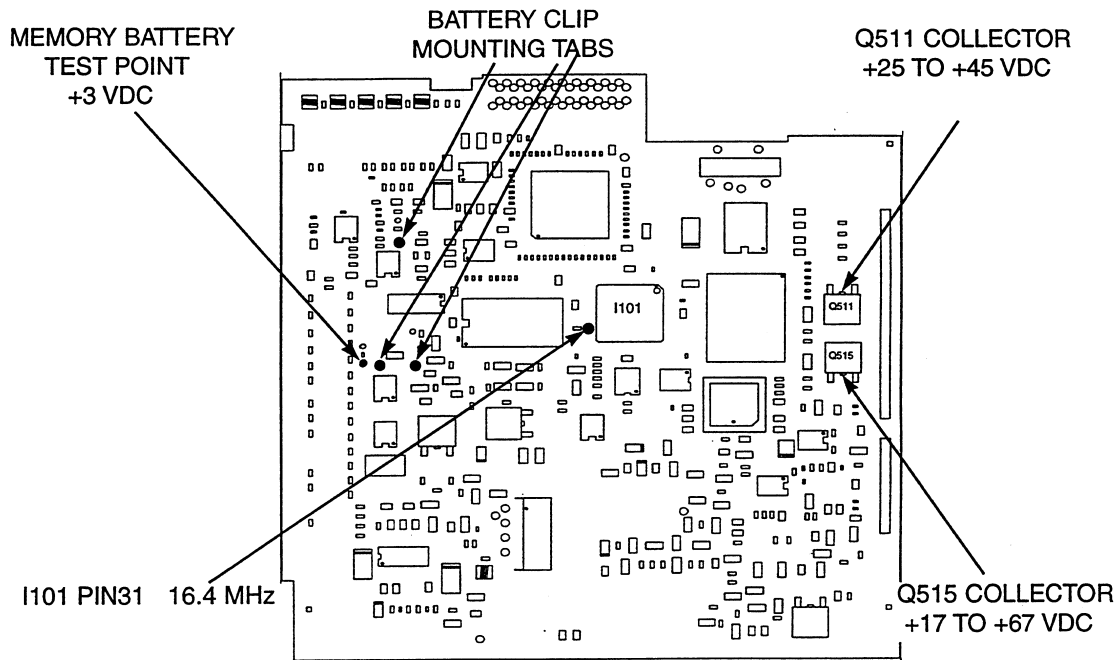

Figure 7. CPU Board Testpoints (Bottom View)
3. Check the DC voltage between Q515 and ground as shown in Figure 7. The voltage should be between 17.00 and 67.00 volts. If the voltage is out of the limits specified, replace the CPU board.
5. Check the DC voltage between Q511 and ground as shown in Figure 7. The voltage should be between 25 and 45 volts. If the voltage is out of the limits specified, replace the CPU board.
Check the clock speed by placing an oscilloscope probe at I101 pin 31 as shown in Figure 7. The frequency should be approximately 16.4 MHz. If the clock is not operational, replace the GPS receiver. If the clock still fails to function, replace the CPU board.